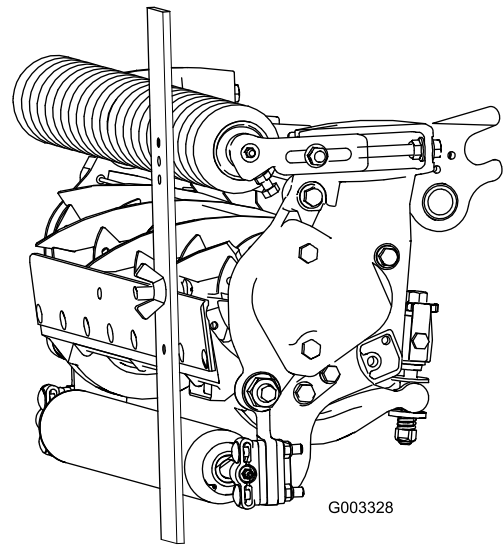

Figure 20
3. Hook the screw head on cutting edge of bedknife and rest rear end of bar on rear roller (Figure 20).
4. Rotate the adjusting screw until the front roller contacts the gauge bar (Figure 20). Adjust both ends of roller until entire roller is parallel to the bedknife.